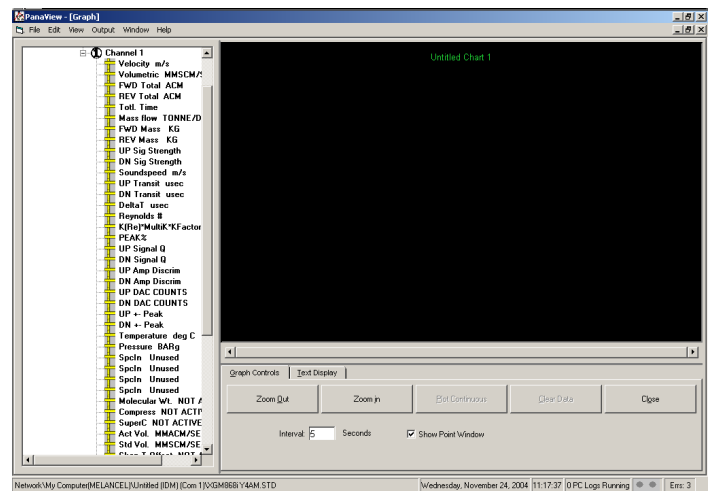

Figure 4: Graph window
- Using the *window* menu, arrange the open windows in the desired format. For this discussion, *Figure 4* below shows the *graph* window in its maximized (full-screen) size.